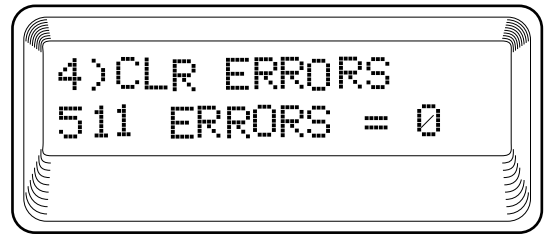

Figure 4-6. Clear Errors Screen
Results: The TSU always checks for 511 errors. The results of this check are shown under submenu item 4 (see Figure 4-6 on page 62).